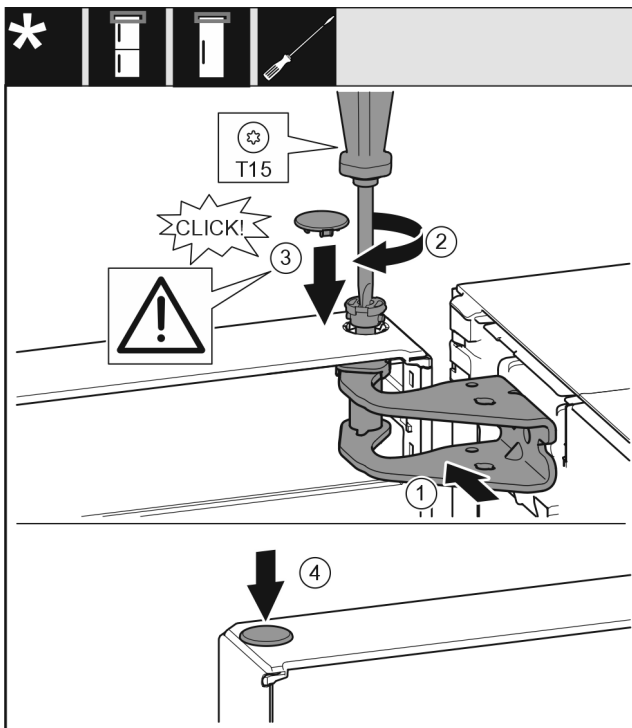

Fig. 23
- ▶ Align the top of the door with opening in the bearing bracket. Fig. 23 (1)
- ▶ Insert the bolt and tighten with a T15 screwdriver. Fig. 23 (2)
- ▶ Fit the protective cover to protect the door: Insert the protective cover and check that it lies flush on the door. If not, insert the bolt fully. Fig. 23 (3)
- ▶ Insert the plugs. Fig. 23 (4)